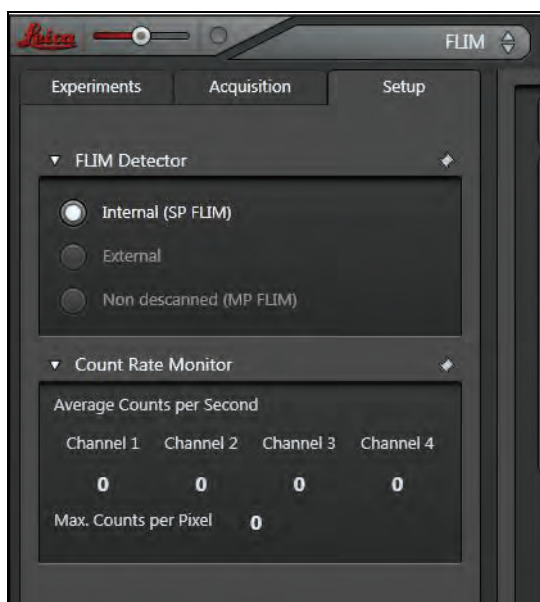

Figure 135: Count rate monitor in the FLIM Wizard
2. Click on the image acquisition button **Run FLIM Test** to start the scanning operation. You can view and optimize the fluorescence intensity in the **Count Rate Monitor** on the **Setup** tab (**Figure 135**).